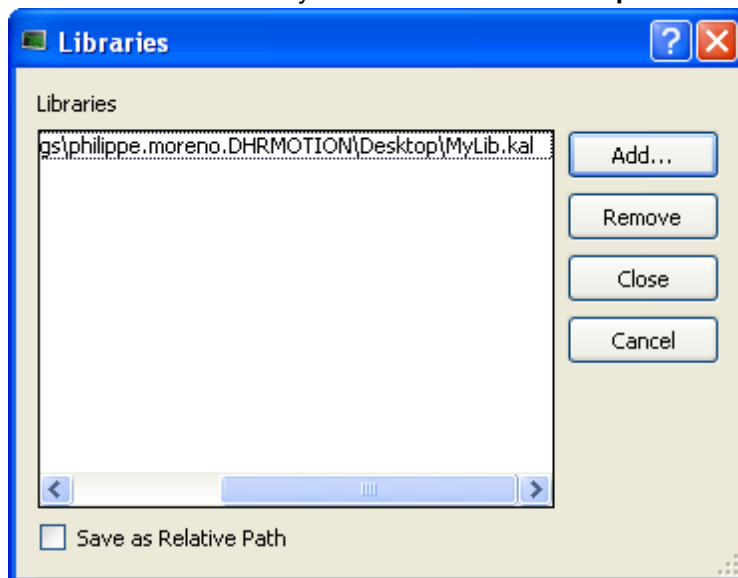

Figure 4-45: Use a Custom Library - Select the Library
- Enter the new path to this library (assuming it still exists on your machine) using the library dialog (see "Figure 4-45: Use a Custom Library - Select the Library " on page 279).